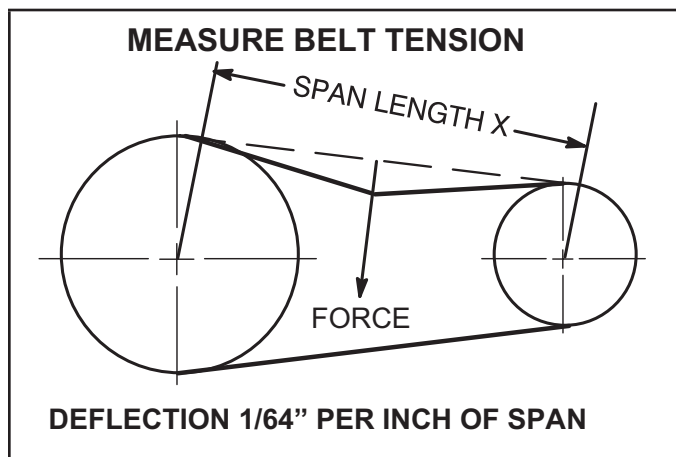

FIGURE 26
- 1 - Measure span length X. See FIGURE 26.
- 2 - Apply perpendicular force to center of span (X) with enough pressure to deflect belt $1/64$ " for every inch of span length.